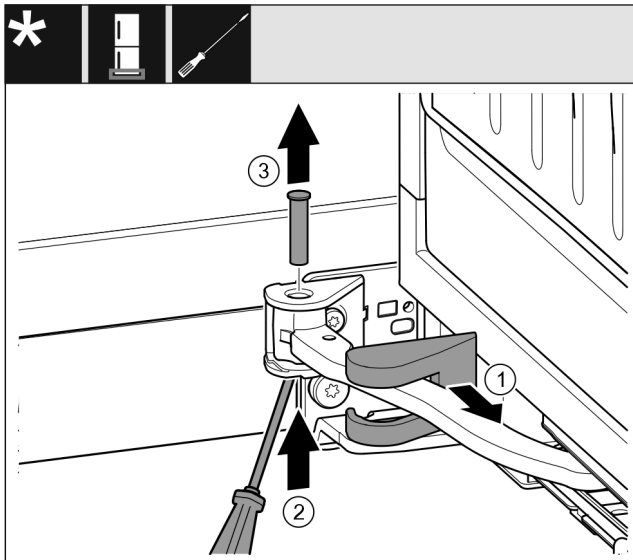

Fig. 19
- Remove the swap bearing block cover Fig. 19 (1) and slide along the joint.
- Use a screwdriver to lift the bolt Fig. 19 (2) from below.
- Pull out the bolt Fig. 19 (3) from above.